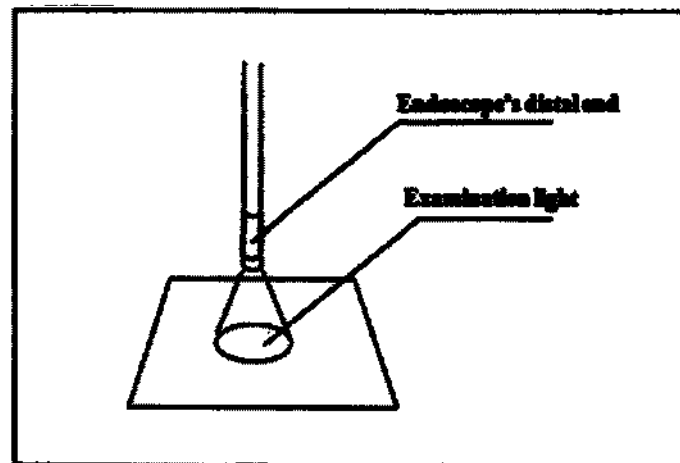

Fig 3.2
2. Confirm that Examination light is emitted from the LCD light on distal tip of the endoscope. (Fig 3.2)